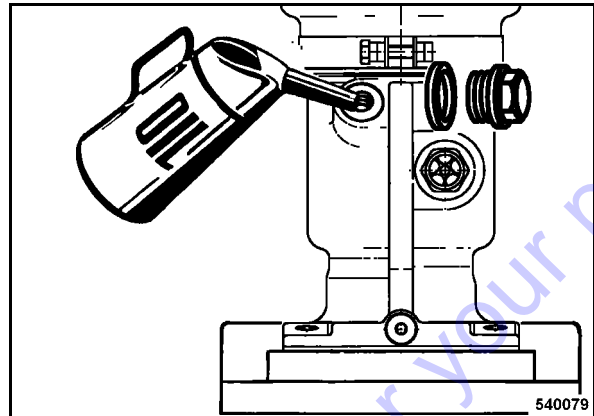

Fig. 69
- Clean the filler plug (Fig. 69) and unscrew it.